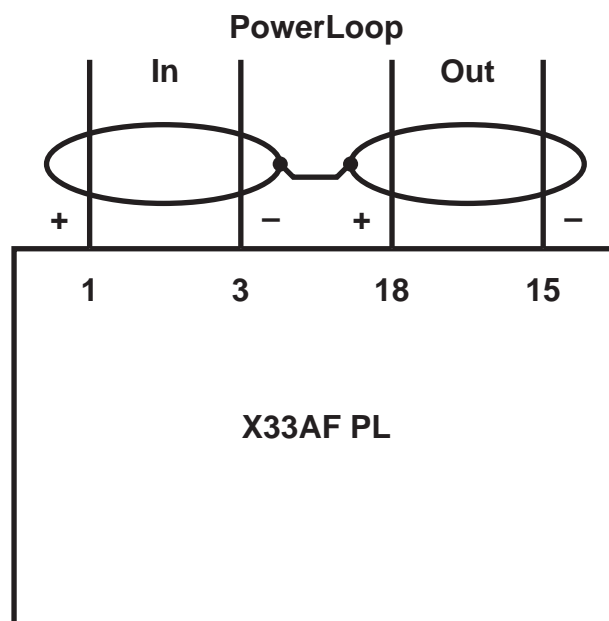

Figure 4 - If shielded cable is used for the PowerLoop, the shielding should be continued.
The use of shielded cable is required to protect against interference caused by EMI and RFI. When using cables with shields, terminate the shields as shown in figure 4. Consult the factory if not using shielded cable.
- Check input power to the unit (18 – 30V DC on terminals 1, 3 and 15, 18. Ref. fig. 4)